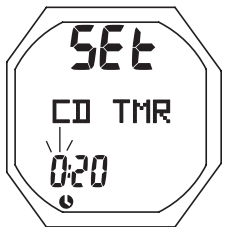

Fig. 13 - SET CDT
**Set CDT**, information includes (Fig. 13):